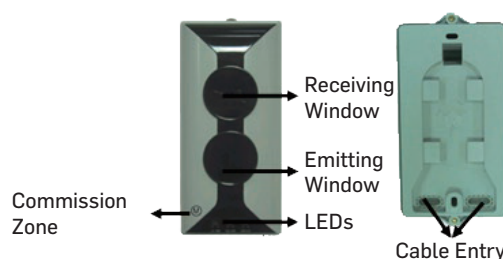

Fig.1
1) Appearance of the detector is shown in Fig.1.